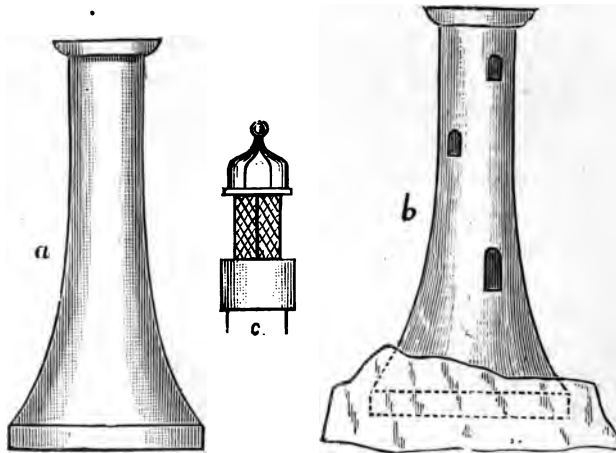

FIG. 96.—Model of Lighthouse.
of its dimensions from some book on the subject, and get the model of the tower turned for you at some lathe; it will come out like the outline in Fig. 96, *a*. From a drawing, mark out all the doors and windows, giving the relative sizes to each, and also their proper positions. Then with chisel and gouge cut them down not more than $\frac{1}{8}$ th of an inch. Next fit the lantern; do this from a drawing. The roof
- of this had better be turned in a lathe. Then cut very neatly the uprights to connect it with the lower part of the lantern. Let each be fixed into its place with glue. When the whole is dry, proceed to glaze it; have the glass cut so that the panes exactly fit, then fix them either with glue or putty. Next get some stout wire, and fasten a rail to run round the gallery at the top of the tower at the base of the lantern. You can work this very neatly with a pair of pliers. Fit each stem of wire into the wood-work by boring holes first with a bradawl. Make the holes somewhat smaller than the wire, and keep them at even distances from each other. With some stouter wire fix up the support for the fog-bell. You can make a small model of the bell in cardboard, or you can get a small metallic bell, which will suit better still. The lantern need not be permanently fixed to the tower; it may be an advantage to have it movable. This you can manage by fixing two pieces of wire in the lower part of the lantern as pins, and boring two holes in the shaft to receive them, as Fig. 96, *c*.
Now you want to construct an imitation rock on which to stand the lighthouse. Glue a rough block of wood to the bottom of the tower, making this as thick as you intend the height of the rock. Then mix some plaster of Paris and sand into a thick paste. Let it stand to get rather stiff, then take a knife and put the cement round the lower part of the wood. Let it stand up in rough block-like pieces, but smoothe it down near to the edge of the shaft, so that it appears as if the shaft is mortised into the rock, as it actually is in the real structure, as in Fig. 96, *b*.